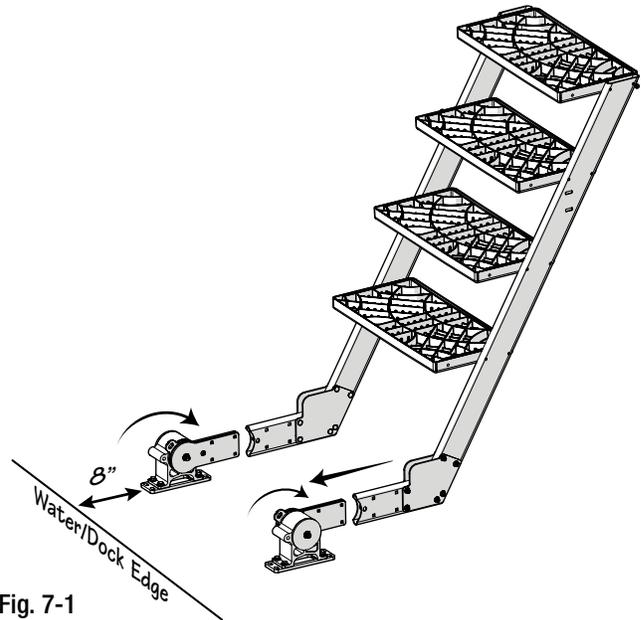

Fig. 7-1
- Position the assembled Nauti Step Lite Dock Ladder upside down with the upper end frames placed next to the base/housing as shown in Fig. 7-1.